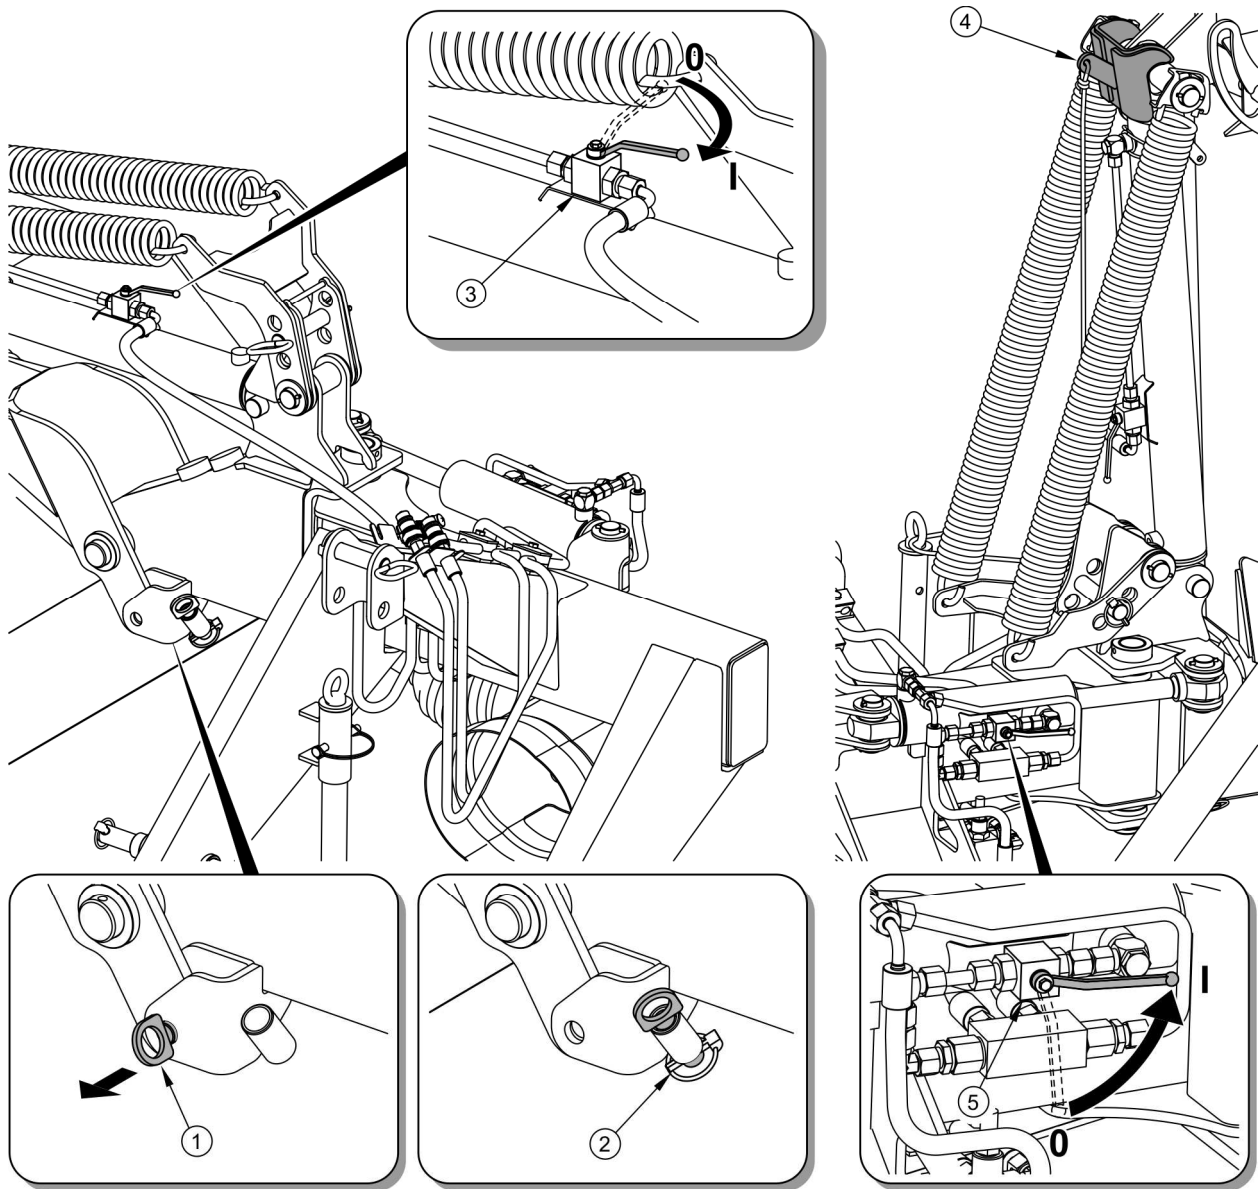

FIG. 4.4 **Setting transport position**
- Reversing the tractor bring the lower three point linkage connection points (A) of the tractor close to pins (1) of the mower.
- Set links (A) of tractor at appropriate height.
- Connect lower pins (1) with linkage arms (A) and lock with the aid of cotter pins.
- Connect top link (B) of tractor with pin (2) mower and lock with cotter pin.
- Raise support (3) (figure (4.12)) and secure with cotter pin.
- Raise the support (2) - Fig. (4.15) and the supports (7) – Fig. (3.6) of the swath conditioner unit (PDT260C and PDT300C) and secure with a cotter pin.
- Unblock bearing arm removing pin (1) from block (figure 4.4).
After hitching mower to tractor remove bearing arm pin (1) from block (figure 4.4).